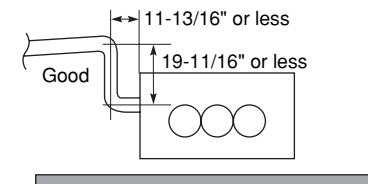

Fig. 3-71
- If it is necessary to increase the height of the drain pipe, the section directly after the connection port can be raised a maximum of 19-11/16". Do not raise it any higher than 19-11/16", as this could result in water leaks. (Fig. 3-71)